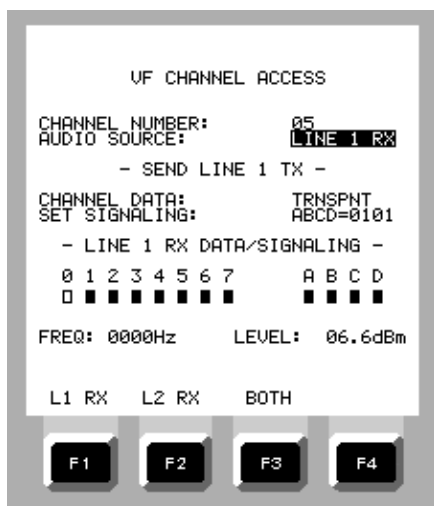

Figure 2-26. VF CHANNEL ACCESS Menu
- d. VF CHANNEL ACCESS - Allows selection of a specific 56Kb/s or 64 Kb/s DS0 channel for test and measurement (Figure 2-26)